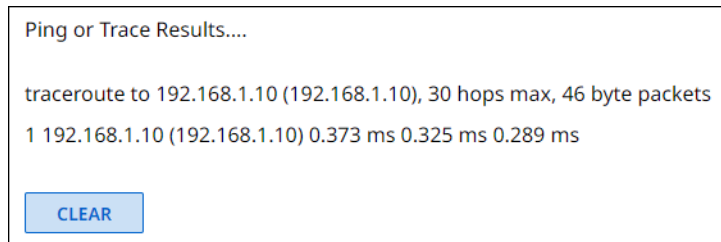

Figure 19. Trace Results Shown
- **Trace** — Use this tool to trace the network route taken by a packet from source to destination. Figure 19 shows the typical results of a Trace diagnostic.